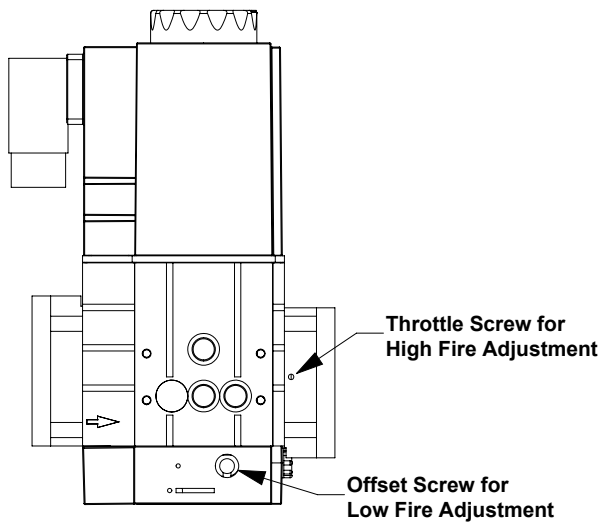

Figure 33: Gas Valve Air/Fuel Adjustment
- d. If high fire O₂ is too high (CO₂ is too low), decrease O₂ (increase CO₂) by turning the throttle screw towards the "Plus (+)" sign in 1/4 turn increments and checking the O₂ (or CO₂) after each adjustment. Refer to Figure 33 for location of throttle screw. Verify CO air free is less than 200 ppm.